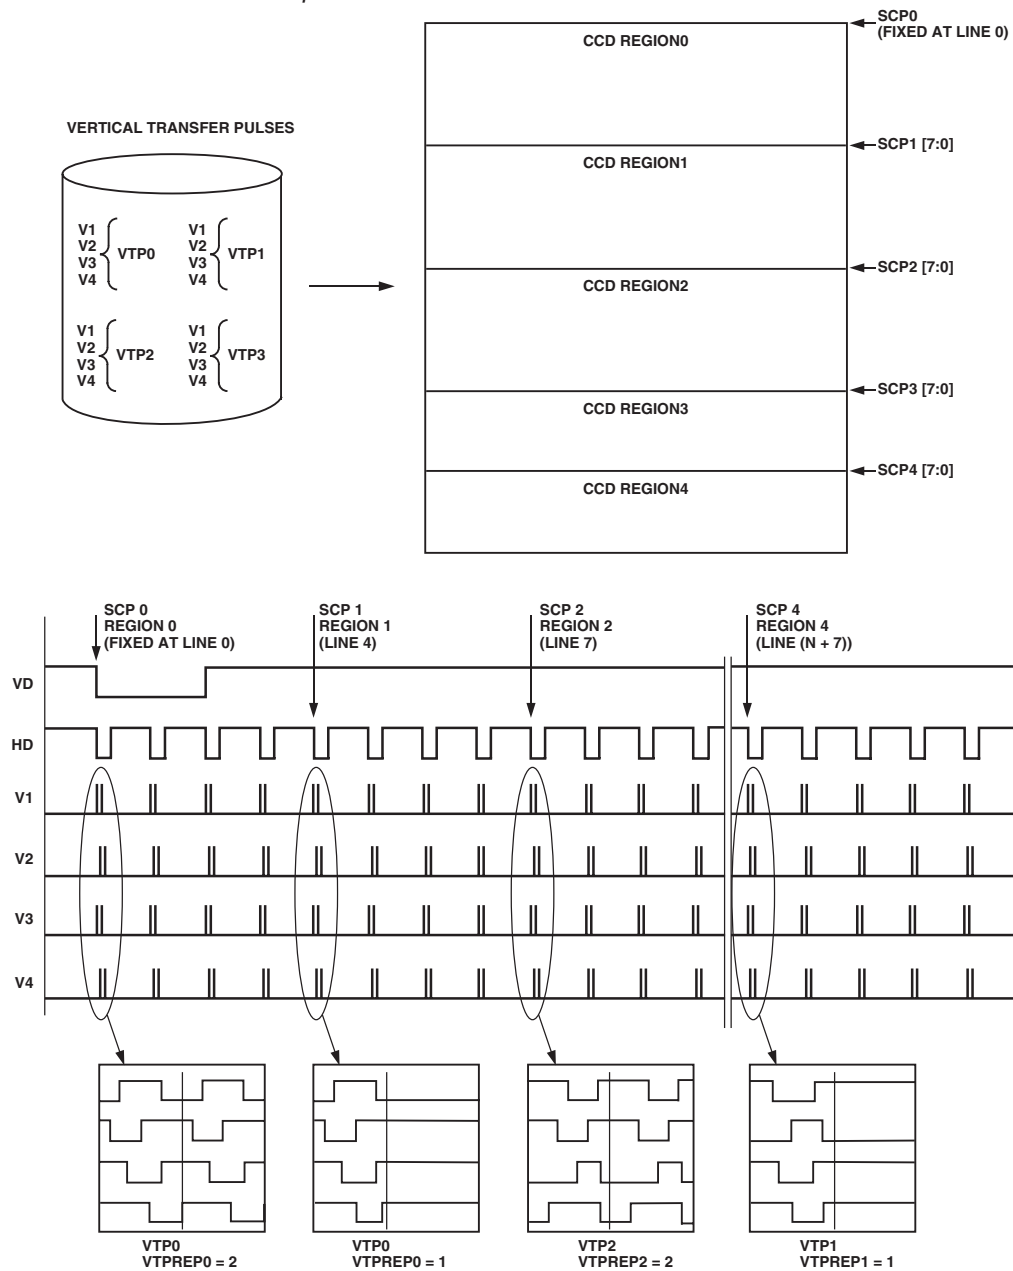

Figure 30. Steps 3 and 4: Example of Building an Entire Field Readout by Assigning Sequences to Multiple CCD Regions
**Output Vertical Sequences into CCD Regions (See Figure 30)**
**Combining CCD Regions (See Figure 30)**
The individual CCD regions are combined into a complete field readout using the sequence change position (SCPx) pointers as described in Table XVII. Figure 30 shows how each field is divided into multiple regions which allows the user to change vertical timing during various stages of the image readout. The boundaries of each region are defined by the sequence change position (SCP). Each SCP is an 8-bit value representing the line number boundary region. A total of four SCPs allow up to five different regions in the field to be defined. The first SCP0 is always hard coded to line zero, and the remaining four SCPs are register programmable.